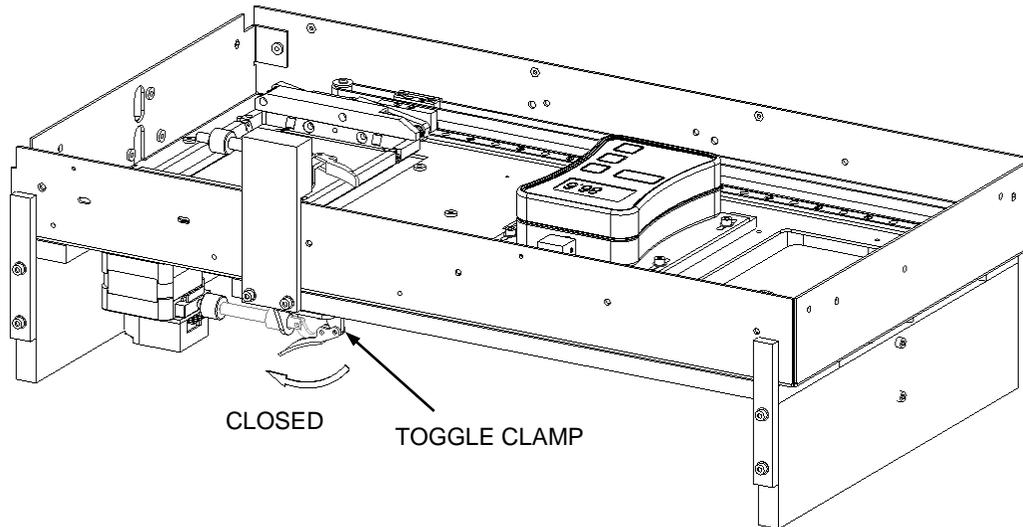

Figure 12-59: Closing Toggle Clamp
6. Close the Toggle Clamp underneath the fixture by flipping the Toggle Clamp Lever towards the Motor (Figure 12-59).